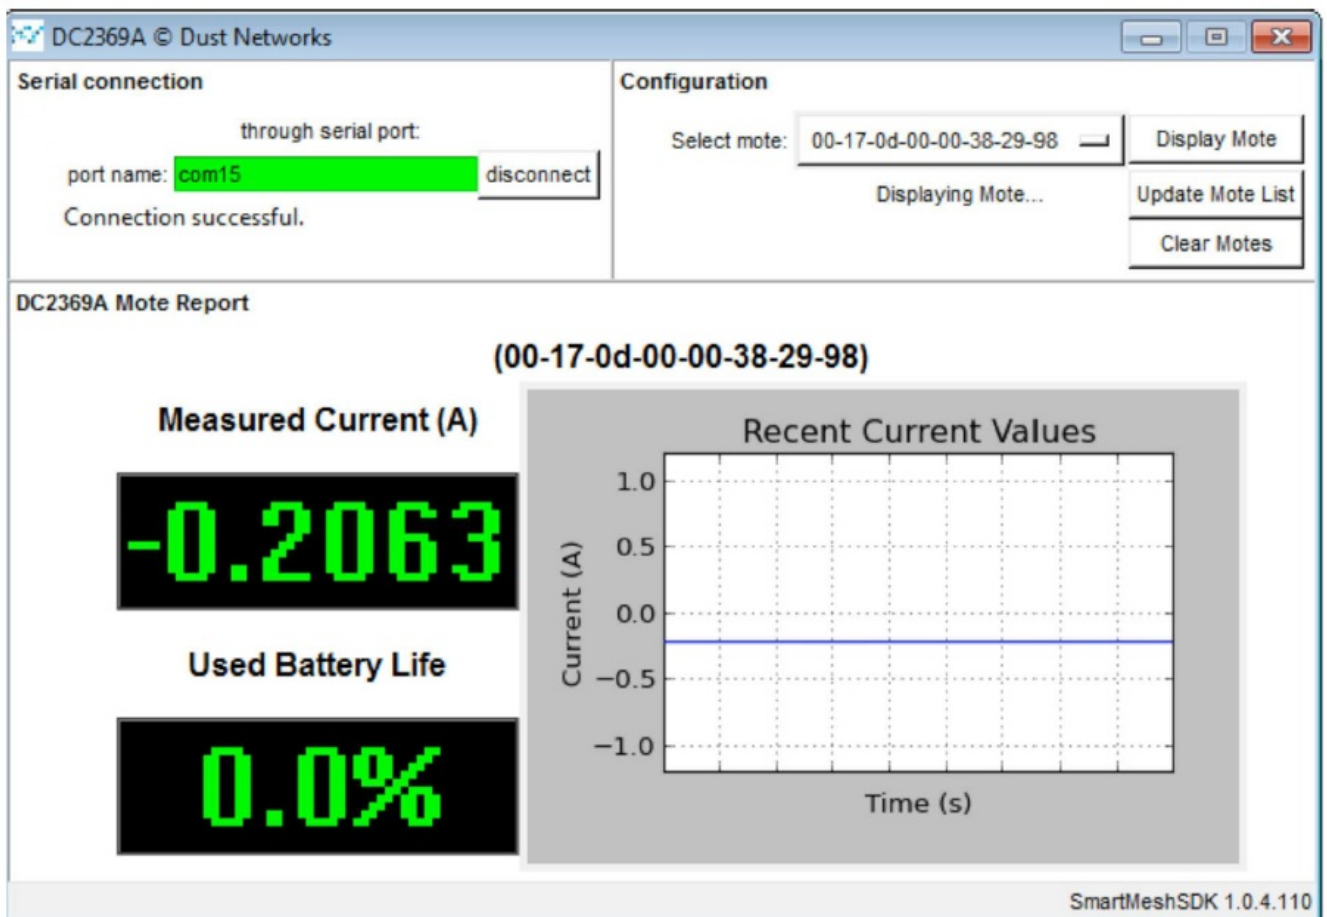

Figure 5. DC2369A GUI Showing Example Data for a Mote
7. **To select a mote for display, see the Select mote:** pull-down menu in the Configuration section, and select from the list of connected motes. The pull-down list will be populated with the MAC address of all DC2369A motes that are found on the network. The last few digits of these MAC addresses can also be found on a label on your DC2369A motes. Click on Display Mote. The GUI window will change similar to Figure 5.
8. Measured Current (A) shows the current measured between the DC2369A input connectors. Used battery life shows an estimation of the percentage of the AAA batteries that have been used since the last reset, based on the coulomb counter reading of the mote's LTC3335 power supply. This will likely start at 0.0% when the mote first powers up, and will only change after many hours of operation.